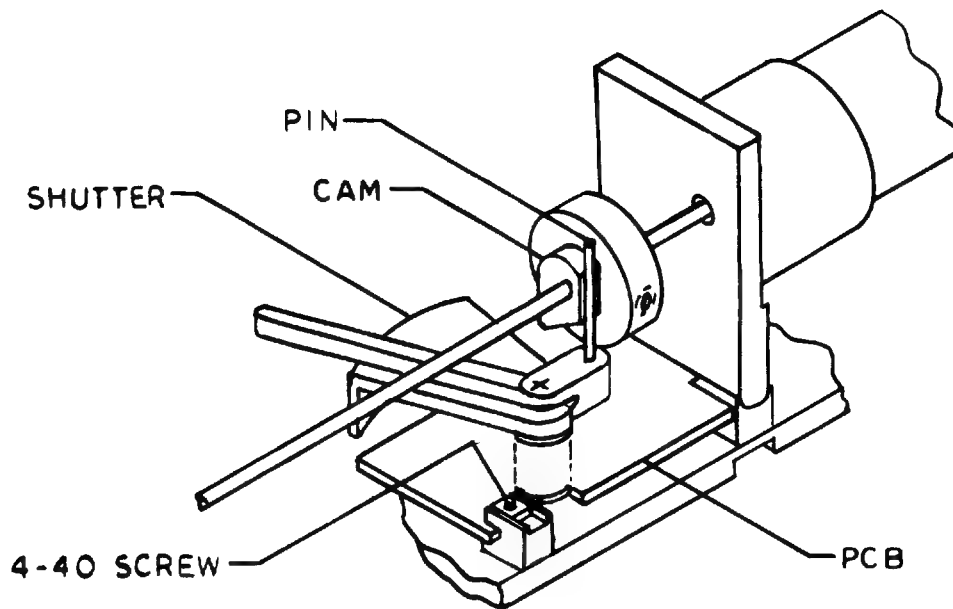

Figure 2-9. Load Cam Shutter Alignment
- e. The shutter pin should be parallel to the flat on the cam, in this open position. (See Figure 2-9.)